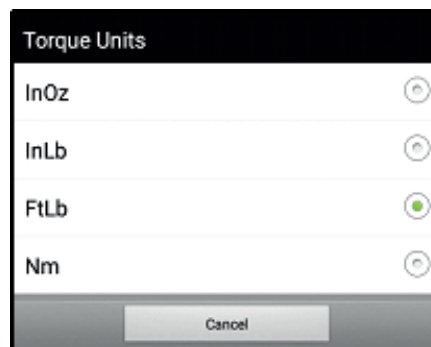

Figure 4-4: Torque Units Preference
**Tool Units Preferences** (Figure 4-4)